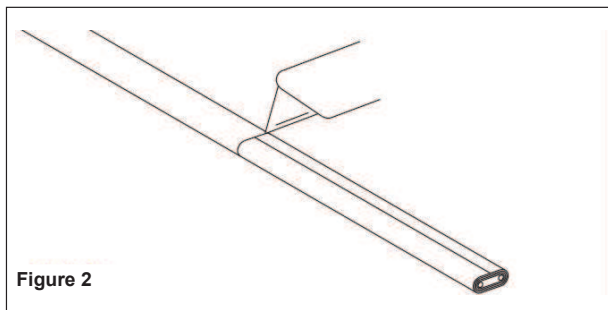

Figure 2
2. Score the outer insulation 7 inches from the end of the cable. Lightly cut the outer jacket up the center to the end of heating cable and remove the outer jacket from the cable (Figure 2).